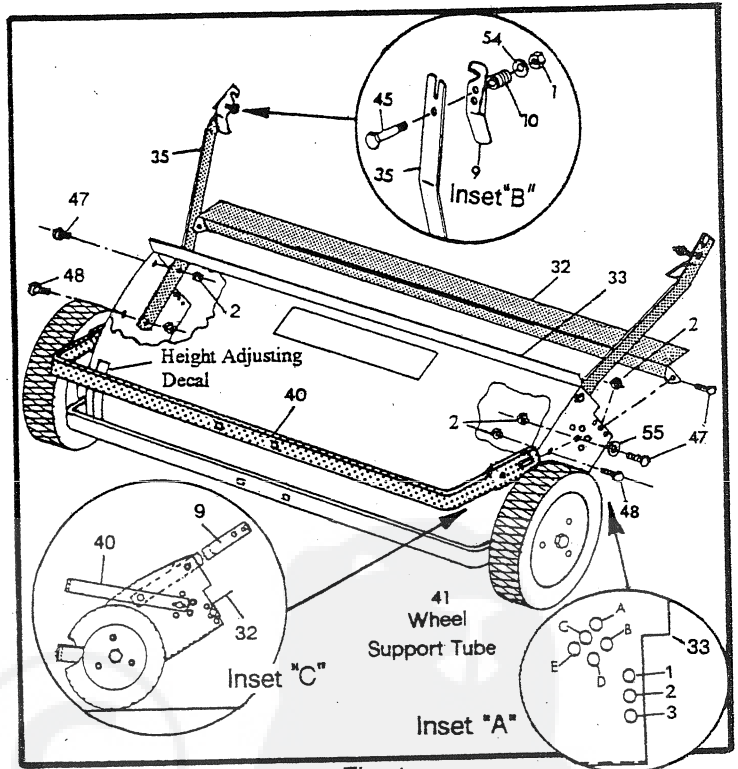

Fig. 1
Refer to Figure 1
- Attach Baffle (32) to the mounting holes at rear of Housing Assembly (33) selected from Chart above using two 5/16"x3/4" Hex Bolts (47) and Hex Lock Nuts (2). Tighten securely.
- Refer to Fig. 1, Insets A & C.
- Insert a 5/16"x1" Hex Bolt (48) in both front mounting holes of Towbar Tube and Housing Assembly to align holes (do not put nuts on yet). Tighten rear 5/16"x3/4" Hex Bolts and Lock Nuts previously assembled.
Attach the Sweeper to your Tractor Drawbar using the 1/2" Hitch Pin (4) and Hairpin Cotter (7) supplied. Tie the end of Pull Rope (19- attached to Hamper) to a convenient location at rear of Tractor. Move Tractor and Sweeper to a flat area (driveway, garage, etc.). Refer to chart in Figure 1 to make sure your Sweeper is assembled properly for your Tractor Drawbar Height.
● Observe the ground clearance at rear of Hamper with Sweeper in operating position. The Hamper should be between 3" and 5" from ground. If adjustment is required, refer to Figure 1 and select Hamper Leveling mounting hole required. Number 1 hole is for lowering Hamper to ground clearance; number 3 hole is for increasing hamper to ground clearance.